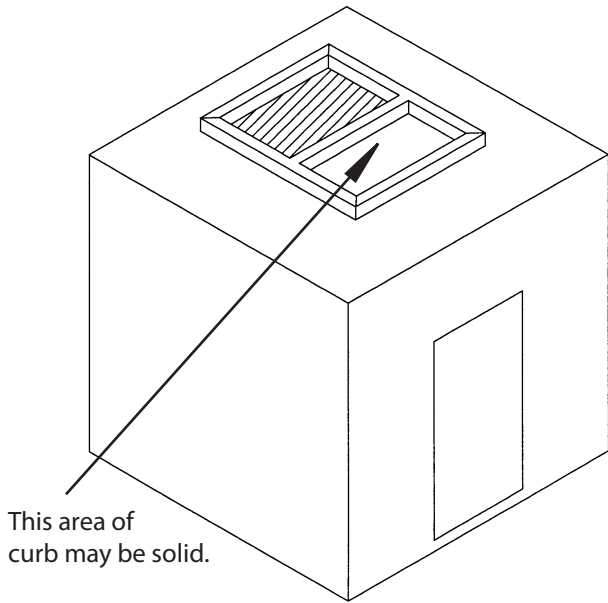

Figure 1. Curb placed on roof of walk-in cooler.
2. Apply silicone caulk around the perimeter of roof opening. Place the curb on roof of cooler. It is recommended that the curb be fastened to the roof panels using non-conductive bolts or insulating the bolt heads. Bolt heads should be countersunk or low profile to prevent contact with the PRO³ system. (See Figure 1, page 7) Check the top of the curb with a level. PRO³ units require a surface that is within 1° of level or better and no more than a 5/8" drop per 3 feet (17mm drop per meter).